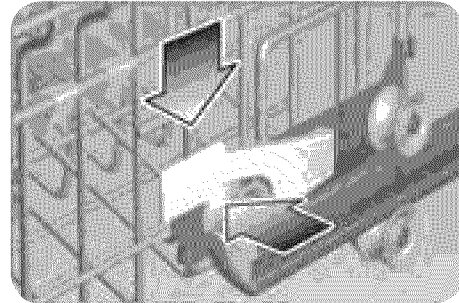

FIGURE 7
- Press the Rackmatic Automatic Height- Adjustable Top Rack handles inward at the same time as shown in **Figure 7** and let the rack drop.